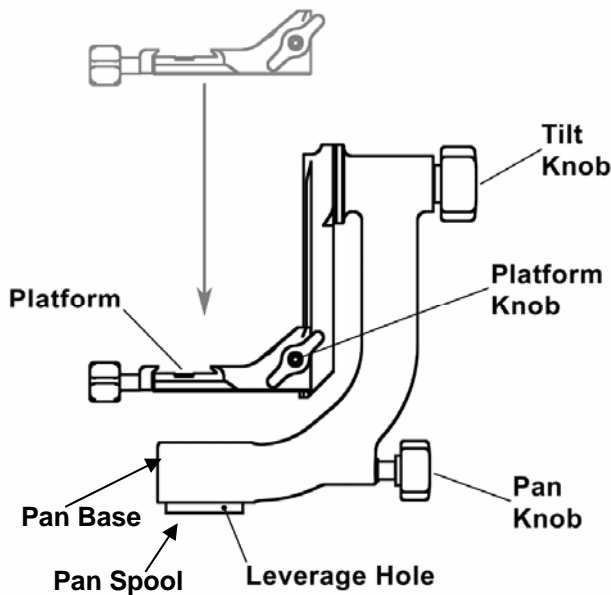

Figure 1
The Wimberley Head comes with its platform detached so that it is more compact for shipping. To attach the platform to the Head, **loosen the platform wing knob** (do not tighten it without it being mounted on the swing arm), and **slide the platform onto the swinging arm of the Head** (Fig. 1). **Slide the platform all the way down until it hits the stop at the bottom; then tighten the platform knob firmly.** You will be adjusting the height of the platform later.
***Leverage Hole in the Pan Spool: (See Fig. 1)** For a tighter attachment, you can insert the long arm of a 5/32 hex key (or a metal rod of similar size and strength, such as a blunted concrete nail) into the small leverage hole on the side of the aluminum pan spool of the Head. *Most Arca-Swiss style quick-release plates come with a 5/32 hex key for their fasteners.* This will give you leverage to tighten the Head further. This hole is not threaded or keyed to fit a hex key, thus the hex key will not loosen anything internally in the panning base, and it will not turn anything inside the hole.